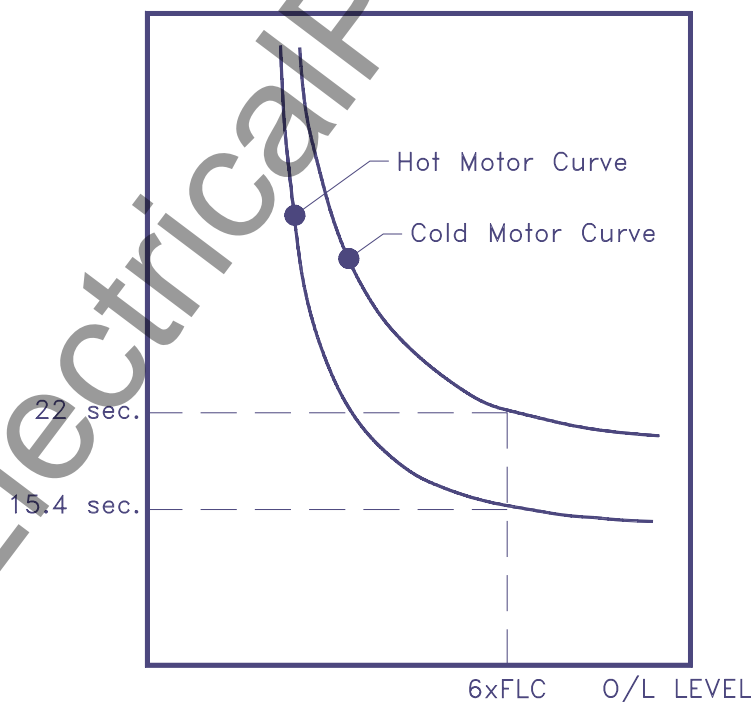

Figure 6-1 Thermal Limit Curves
3. Recommended thermal limit curves are as shown in Figure 6-1.